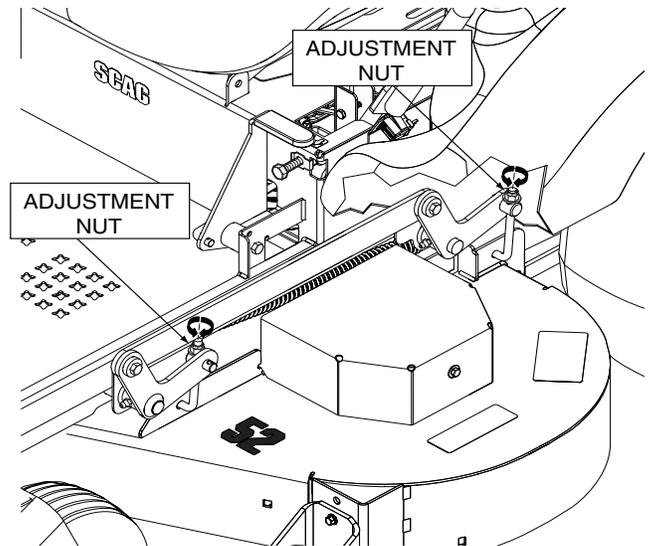

Figure 6-4. Cutter Deck Level Adjustment
1. If the cutter deck is lower on one side, locate the elastic stop nuts on the front and rear of the lower side of the cutter deck. See Figure 6-4.
2. Turn the elastic stop nuts on the front and rear deck level links clockwise until the cutter deck is level between both sides. See Figure 6-4
3. Tighten the two (2) elastic stop nuts to secure the cutter deck in the proper position.